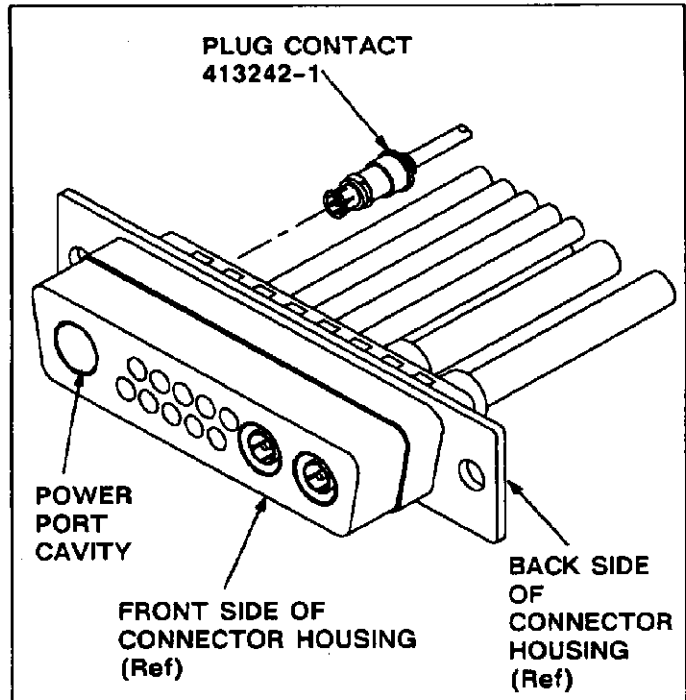

Fig. 9
7. Insert the plug or jack contact into the power port cavity from the **back side** of the connector housing. See Figure 9.